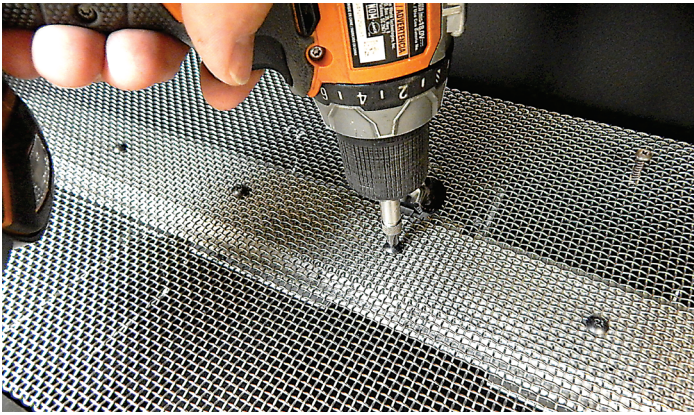

Figure 4
- Using a Phillips screwdriver, remove the Phillips Pan Head screws that secure the Burner Screen to the Burner, and set aside. DVLL36BP has (7) screws, and the DVLL48BP has (9) screws. **See Figure 4.**